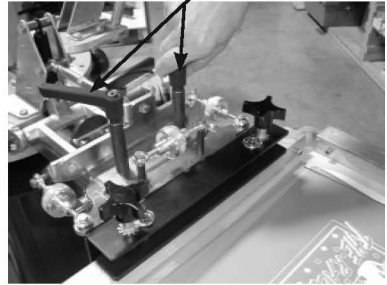

Fig. 13
Adjust so that the screen is parallel with the shirt board front to back, and make sure your screen sits totally flat on the shirtboard. Or the screen **will** slip when you tighten the ratchet handles. (See handles on page 7 Fig. 13)
1. The first step involves setting all micro register heads to a neutral position. This can be done by loosening the ratchet handles approximately a 1/4 turn (Fig. 13) and then turning the three registration knobs (Fig. 14) until the arrow tab points (Fig. 15) to the center of the inscribed cross hairs.